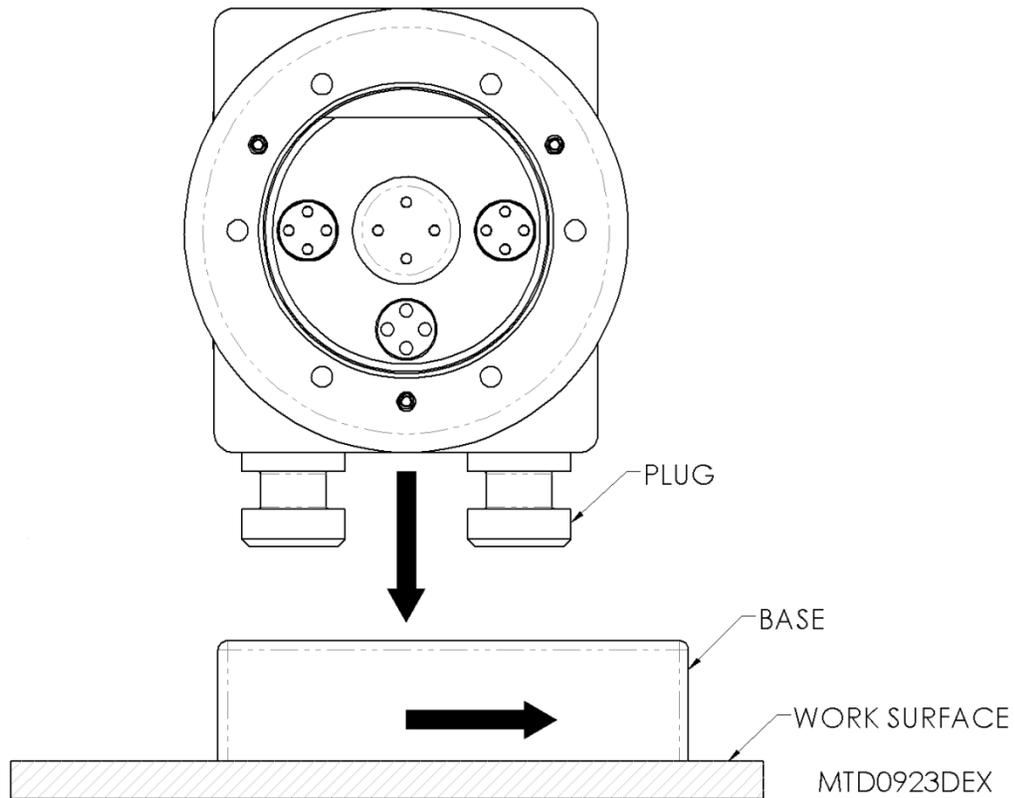

Figure 7-3: Rebuild Fixture Mounting
- Install mounting plugs in pump fluid ports and lock body into bench mounting fixture as shown in figure 7-3.